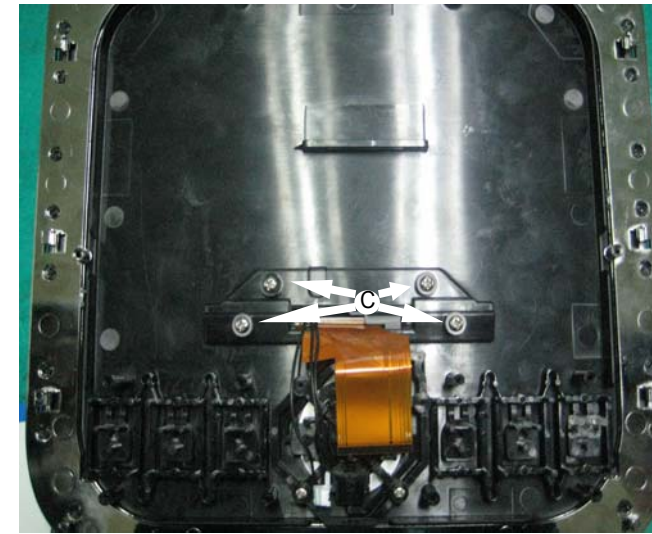

Figure 6
- 1) Loosen 4 screws "C" (S1 x 4) on the top cover as shown in figure 6.